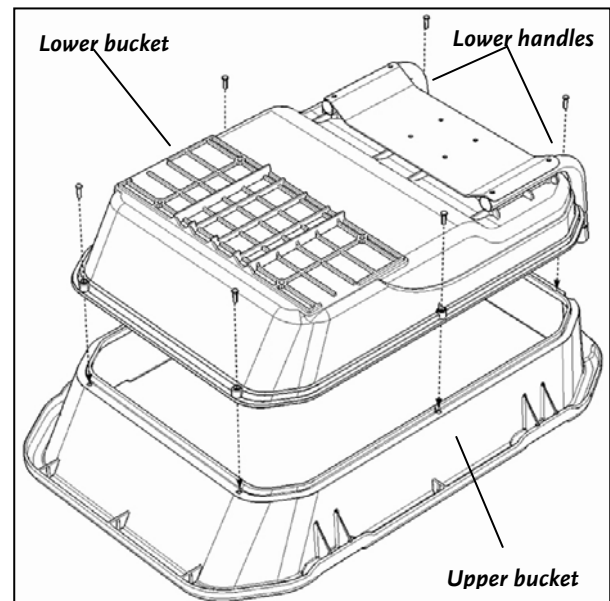

Figure 1. Aligning and attaching the Upper and Lower Buckets.
- Open the blue hardware bag. Insert a 1/4" x 1/2" screw through each of the holes in the rim of the lower bucket (**Figure 1**).